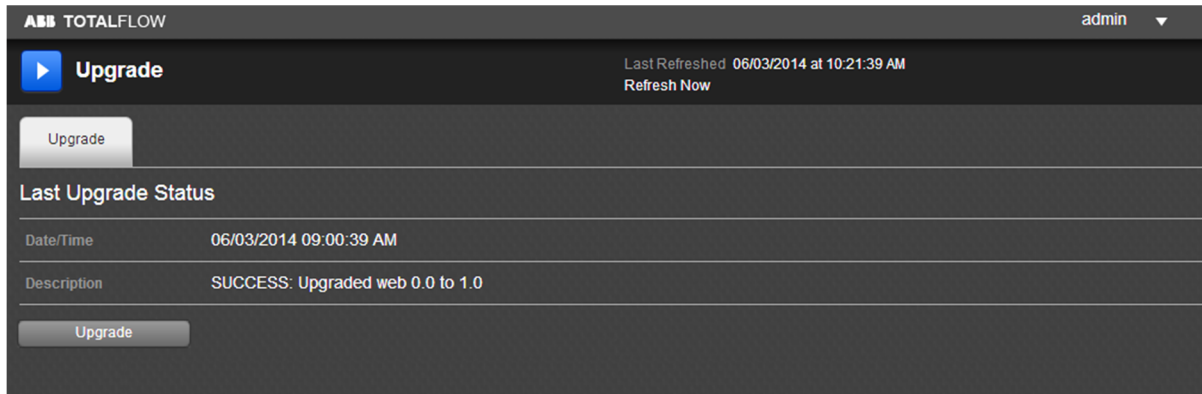

Figure 9: Upgrade Webpages
1. Following successful login, proceed to **Upgrade** tab, and select **Upgrade** (Figure 9).